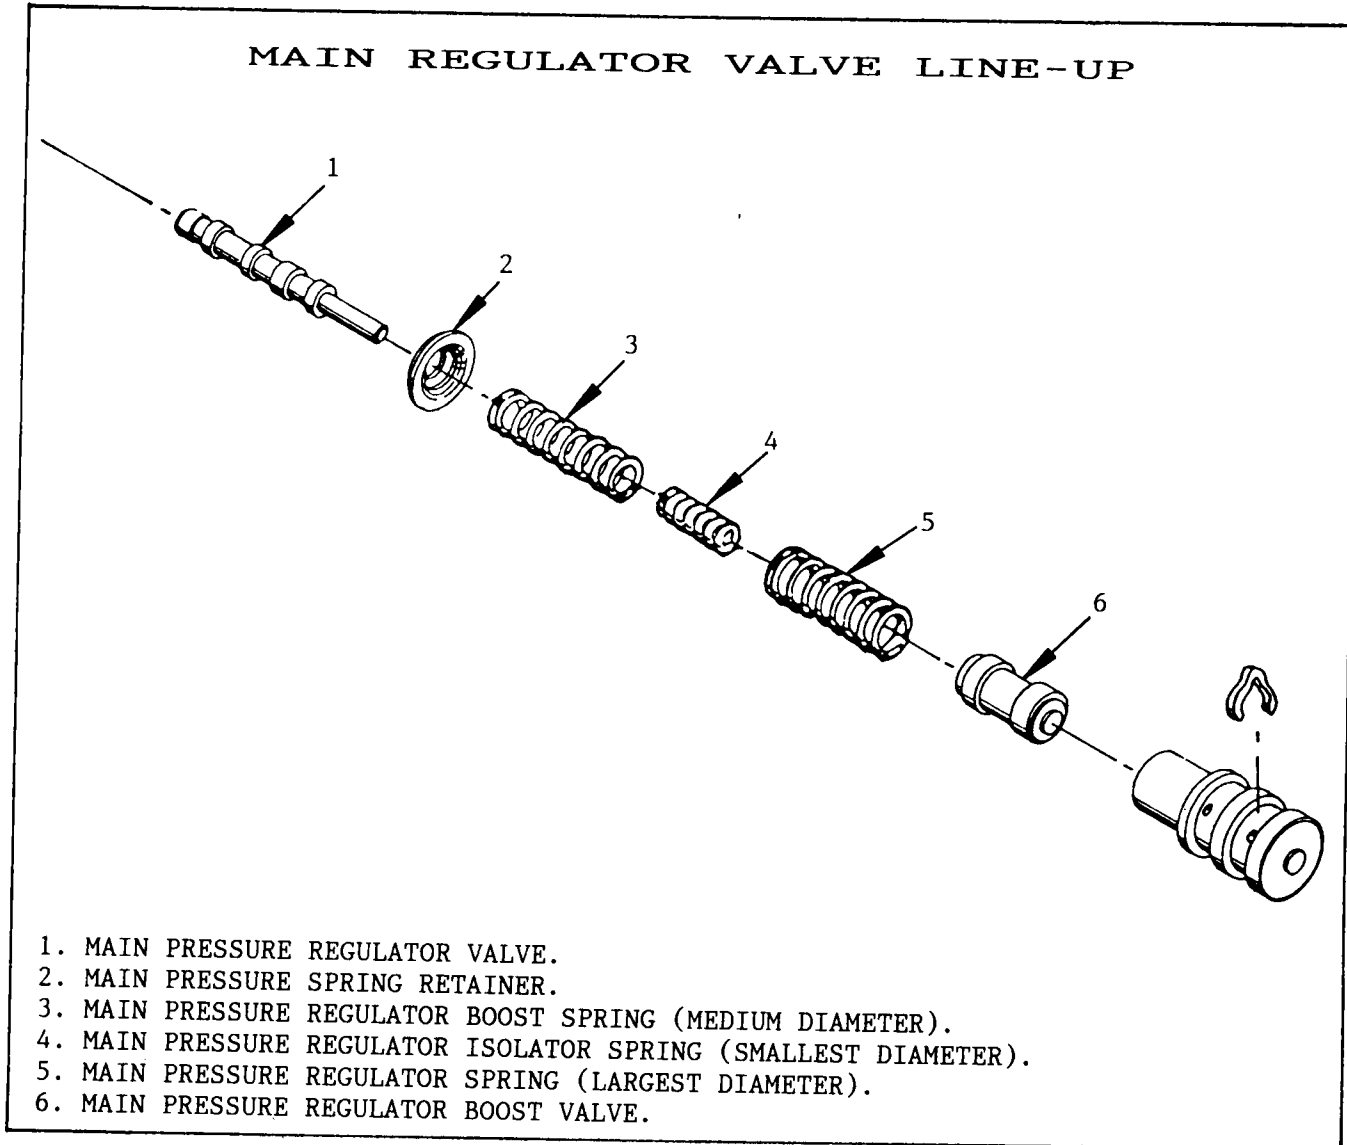

Figure 43
- NO. 1. A "Shudder" during a 1-2 upshift will occur if the main pressure regulator "Isolator" spring is not installed after cleaning the valve body (See Figure 43). This is caused by fluctuations in main line pressure at the time of the 1-2 shift.
- NO. 2. Delayed upshifts can be caused by the pressure regulator spring retainer being installed backwards (See Figure 43). This will create low main line pressure.
- NO. 1. Insure that all three (3) pressure regulator springs are re-installed in the valve body regulator bore (See Figure 43).
- NO. 2. Insure that the main regulator spring retainer is installed in the proper direction (See Figure 43). The retainer is very similar to the one used in the AOD valve body, but is installed in the opposite direction of the AOD (See Figure 43).